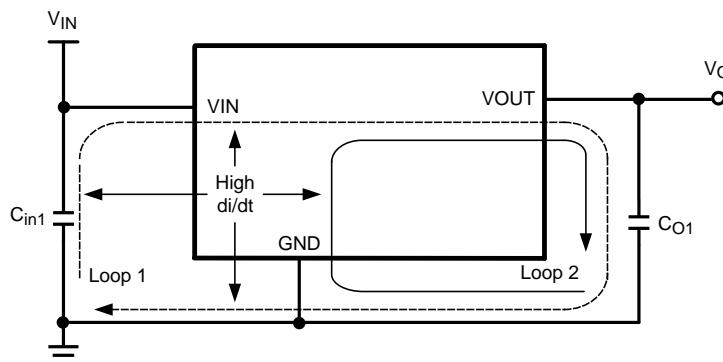

Figure 53.
From an EMI reduction standpoint, it is imperative to minimize the high di/dt paths during PC board layout as shown in Figure 53. The high current loops that do not overlap have high di/dt content that will cause observable high frequency noise on the output pin if the input capacitor (C_{in1}) is placed at a distance away from the LMZ23603. Therefore place C_{in1} as close as possible to the LMZ23603 VIN and PGND exposed pad. This will minimize the high di/dt area and reduce radiated EMI. Additionally, grounding for both the input and output capacitor should consist of a localized top side plane that connects to the PGND exposed pad (EP).